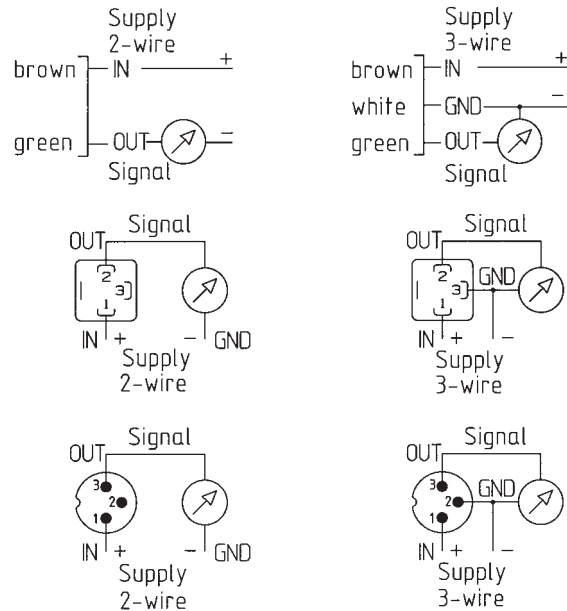

Fig. 2
**Calibration options** (example fig. 2)